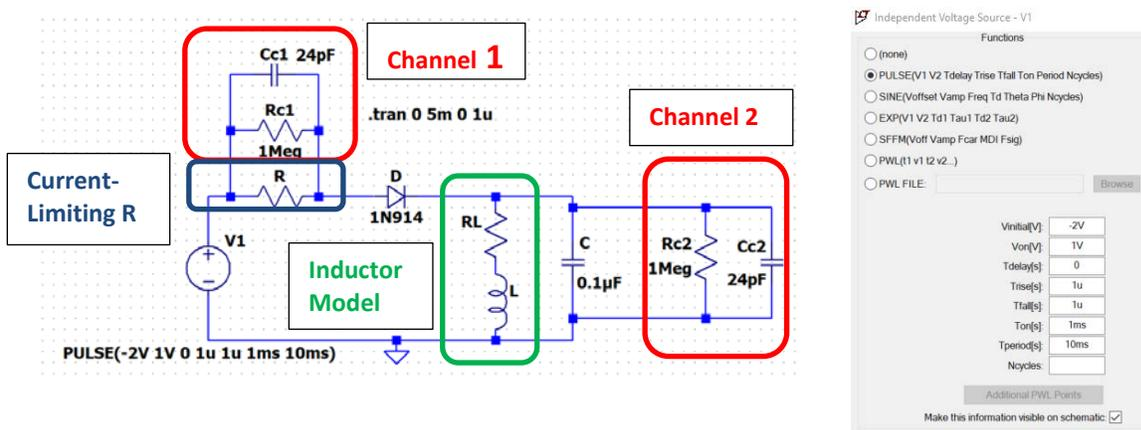

Figure B-2.
across the capacitor and inductor and determine its frequency, we can determine L from our knowledge of C. To do this measurement and model the behavior of the inductor using *LTspice*, we have to modify the ideal circuit as shown below in Figure B-2.
- Simulate the circuit in Figure B-2 in *LTspice*. This is the same circuit as the one pictured in B-1 but the inductor (because it *does not* have an insignificant internal resistance) is more accurately simulated by two components, an inductor and a resistor. Components representing the scope are also included.